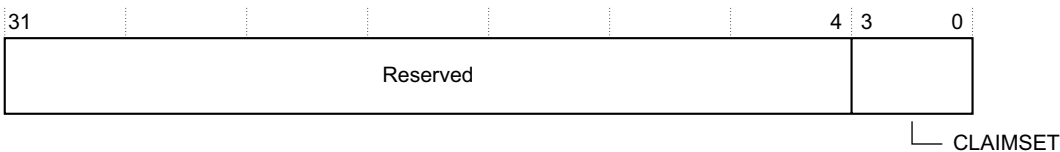

Figure 3-165 CLAIMSET Register bit assignments
- Figure 3-165 shows the CLAIMSET Register bit assignments.